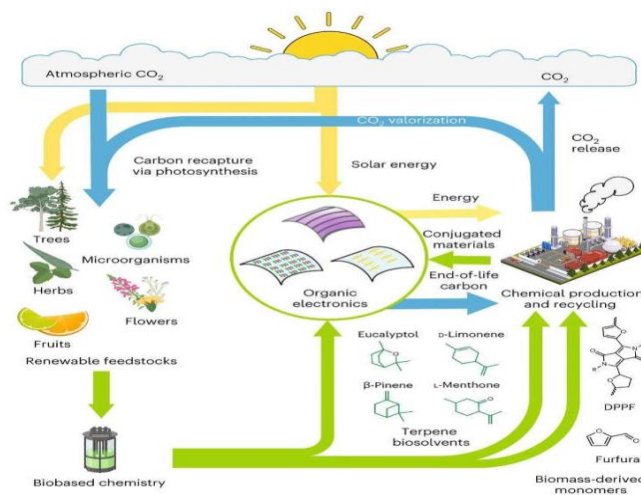

Fig. 1.14: Organic Electronics
2.Organic Electronics – Organic Electronics offer massive advantages over traditional inorganic electronics. They are cost-effective, flexible, indissoluble, optically transparent, lightweight, and consume low power. In addition, the rise in awareness for sustainable development and eco-friendly manufacturing attracts manufacturers to opt for organic electronics. (Figure 1.14) Designing circuits with microbial components or producing devices with biodegradable and recyclable materials is seen to be the next electronics manufacturing trend.